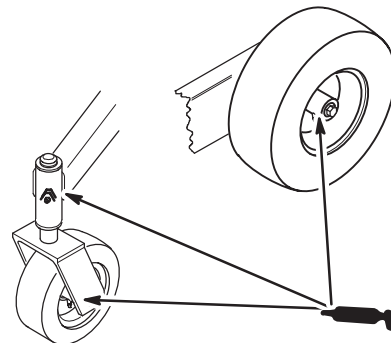

Figure 29
1. Lubricate the front wheel bearings and front spindles until grease begins to ooze out of the bearings (Fig. 29).
2. Remove rear wheel grease cap. Lubricate the rear wheel bearing (Fig. 29).